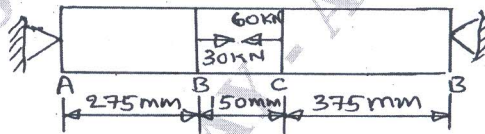

Fig.Q1(c)
- c. A bar of 800 mm length is attached rigidly at A and B as shown in Fig.Q1(c). Forces of 30 kN and 60 kN act as shown on the bar. If $E = 200 \text{ MPa}$, determine the reactions at the two ends. If the bar diameter is 25mm, find the stresses and change in length of each portion.